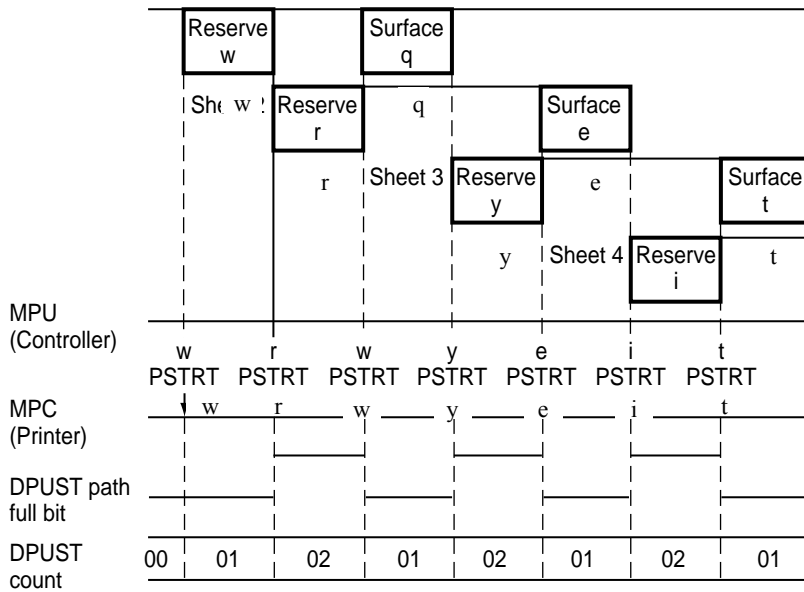

Figure 2-10. Double-sided Printing Sequence Timing Chart
- Figure 2-10 "Double-sided Printing Sequence Timing Chart," Page 2-19
Refer to Figure 2-10 "Double-sided Printing Sequence Timing Chart":